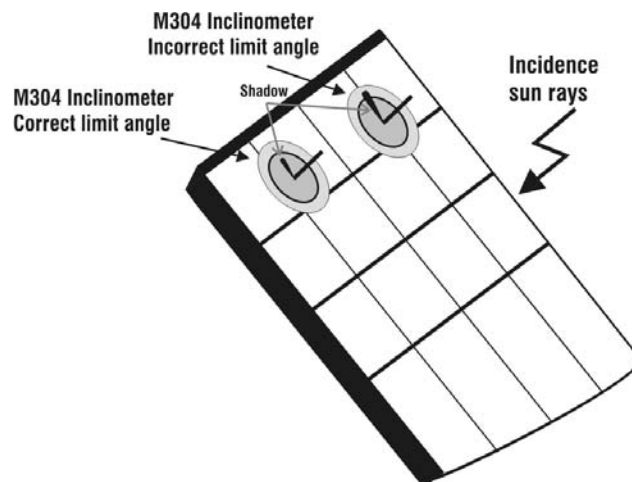

Fig. 8: Positioning the M304 inclinometer
17. Mount the M304 (inclinometer) supplied accessory, place and hold it on the plane of module. **Verify that the sun shadow falls on the disc within the “limit internal circle” on the disc itself (see Fig. 8).** If this is not the case, the incidence angle between sun rays and the module surface is too high and not complying with the test conditions declared by the module manufacturer. As a consequence the measurements performed by the meter are not ok and all measurements steps shall be repeated at another daytime